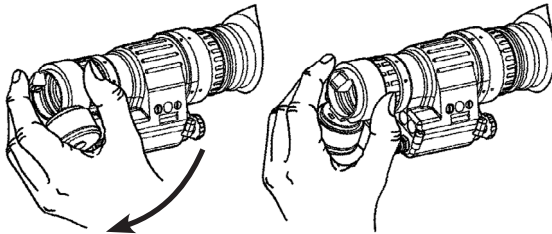

FIGURE 2-11. COMPASS INSTALLATION
4. Press the compass onto the objective lens at an angle. Slowly turn the compass counterclockwise until it is in the vertical position, with the illumination button pointing down (Figure 2-11).